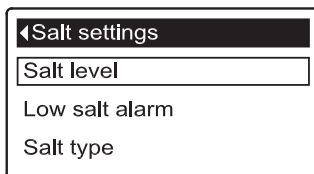

FIG. 90
3. Press the SELECT (○) button to display the Salt settings menu (See Figure 90).
7. Press the SELECT (○) button. The display will go back to the Salt settings menu (Figure 90).